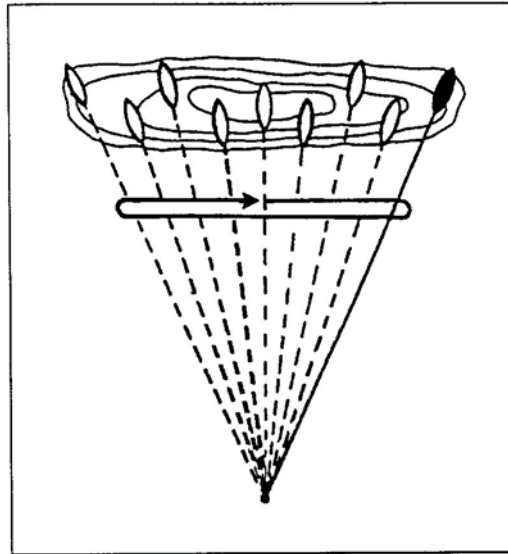

Figure 13. Area targets.
- (5) Area target. Initially aim at midpoint of the target area. Traverse and search to either flank, then traverse and search to the opposite flank (Figure 13).